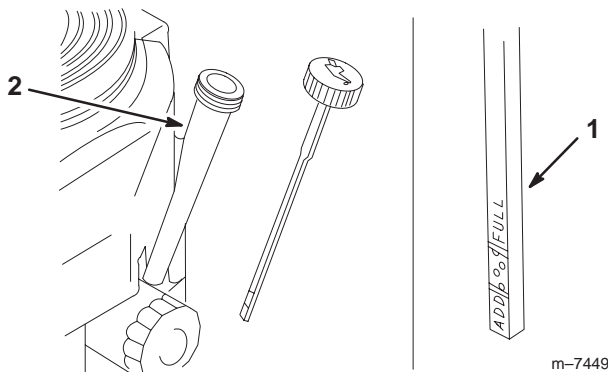

Figure 31
4. Clean around the oil dipstick (Fig. 31) so that dirt cannot fall into the filler hole and damage the engine.
5. Unscrew the oil dipstick and wipe the end clean (Fig. 31).
6. Slide the oil dipstick fully into the filler tube, **but do not thread it onto the tube** (Fig. 31).
10. Slowly pour approximately 80% of the specified oil (refer to Service Interval/Specification on page 30) into the filler cap (Fig. 31).